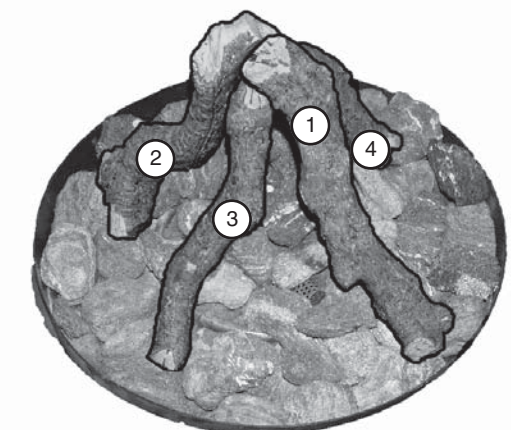

Fig. 20-4
1. Place the ends of three or four logs into the volcanic stones with their flat sides facing inward and their tops pointed upward. Then lean their other ends against each other at an angle in the center of the fire ring (see Fig. 20-4).